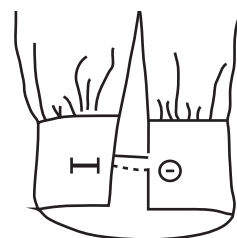

Figure 27
6. Sew buttonhole and button on band (Figure 27).